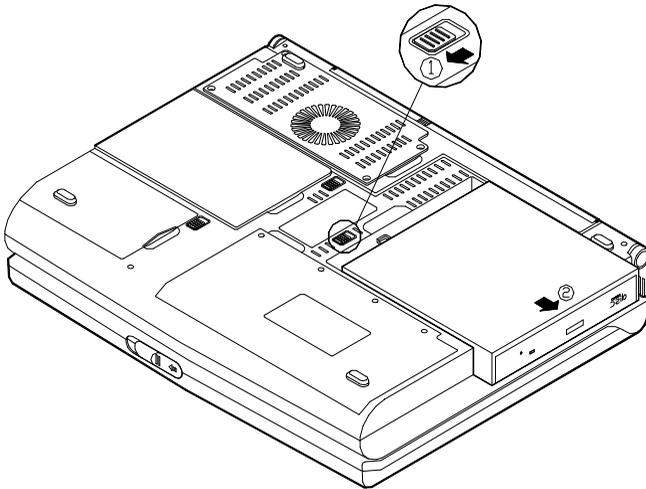

Figure 2-13
4. Press the latch in the direction indicated and take the CD-ROM module out of the computer (Figure 2-13).